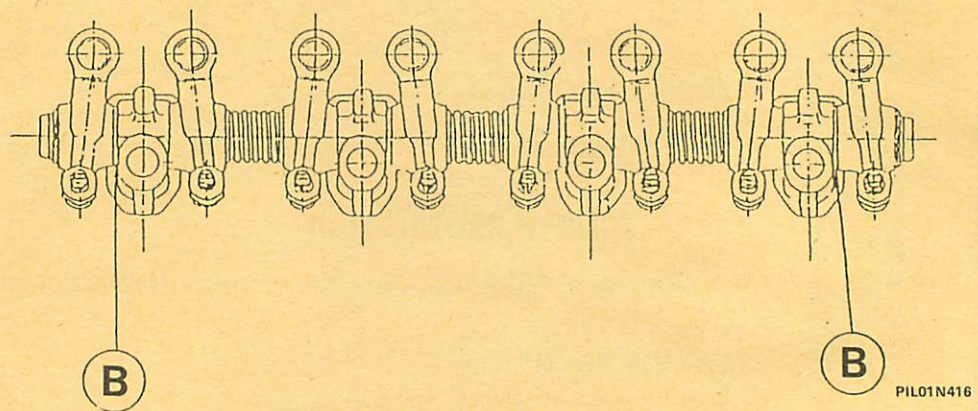

FIGURE 1
- Remove rocker arms 1-8 from the shaft (A in figure 1).